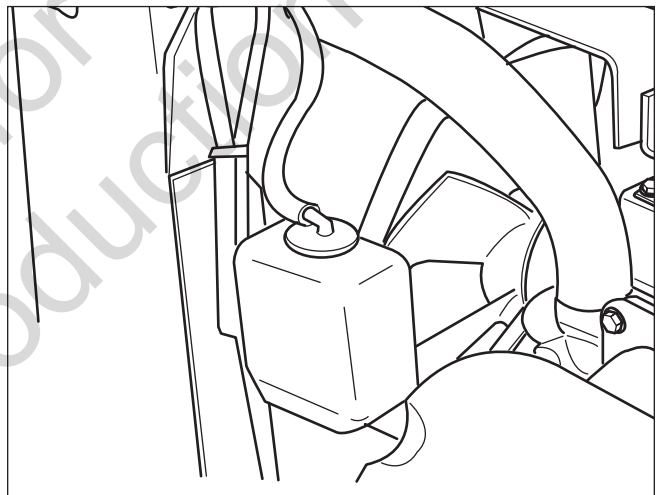

**Figure 18. Radiator & Oil Cooler**
1. Remove the radiator pressure cap (A, Figure 18) to check the fluid level.